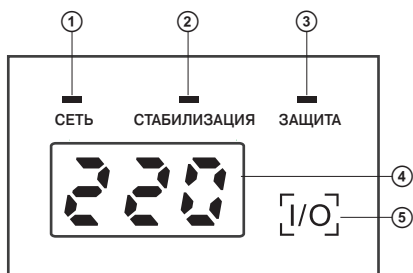

Fig. 1. Control panel
**4. DESCRIPTION** (see. Fig. 1, 2 and 3)
① СЕТЬ (NETWORK): LED (green) lights up when there is a input voltage
② СТАБИЛИЗАЦИЯ (STABILIZATION): LED (yellow) lights up when operating stabilizer for rise/fall if the input voltage display is turned off
③ ЗАЩИТА (PROTECTION): LED (red) lights up in case of accident (high/low voltage protection operation, autotransformer thermal overload), blinks at working off delay
④ Digital display: on default it displays output/intput voltage level (displaying accuracy  $\pm 3\%$ );